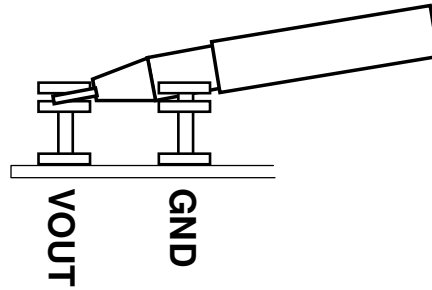

Figure 2. Measuring Output Voltage Ripple
**NOTE:** When measuring the output voltage ripple, care must be taken to avoid a long ground lead on the oscilloscope probe. Measure the output voltage ripple by touching the probe tip directly across the Vout and GND terminals. See Figure 2 for proper scope probe technique.